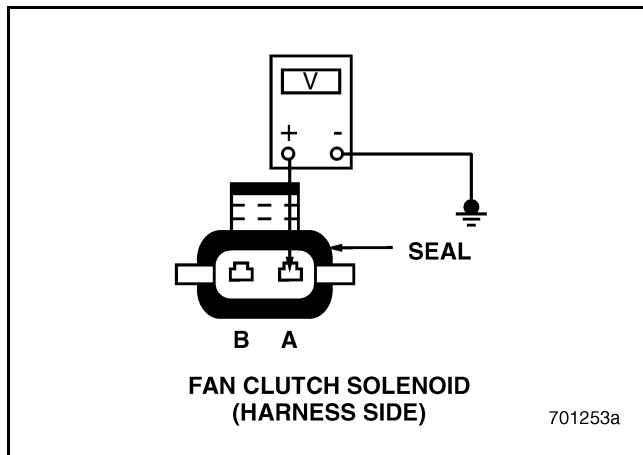

Figure 462
4. If the vehicle is equipped with an on/off fan clutch, measure the voltage between pin A of the Fan Clutch Solenoid harness connector and a good ground (see Figure 462).